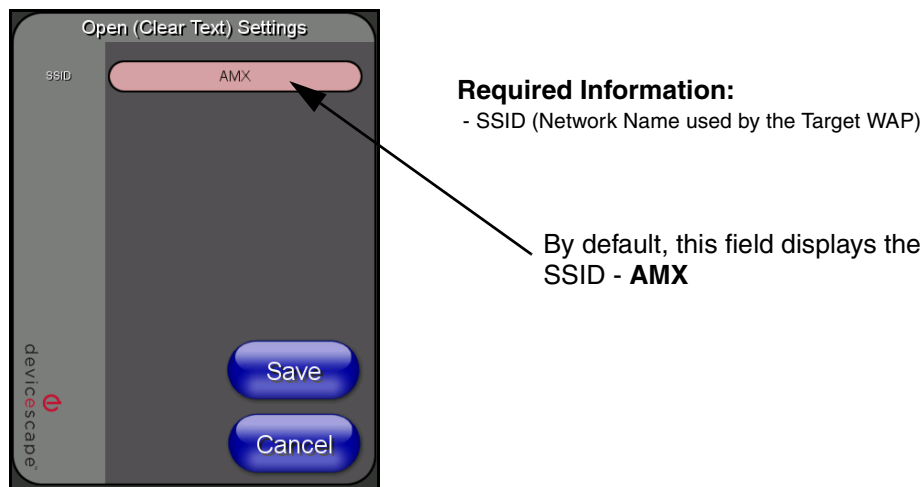

FIG. 62 Wireless Settings page - Open (Clear Text) security method
7. From within the Wireless Security section, press the **Open (Clear Text)** button to open the Open (Clear Text) Settings dialog (FIG. 62). An Open security method does not utilize any encryption methodology but does require that an SSID (alpha-numeric) be entered. Using this method causes network packets to be sent out as unencrypted text.
8. Press the red *SSID* field (FIG. 62) to display an on-screen *Network Name (SSID)* keyboard.
11. From the Open (Clear Text) Settings page (FIG. 62), press the **Save** button to incorporate your new information into the panel and begin the communication process.
- The descriptions are: **None**, **Poor**, **Fair**, **Good**, **Very Good**, and **Excellent** (FIG. 62).